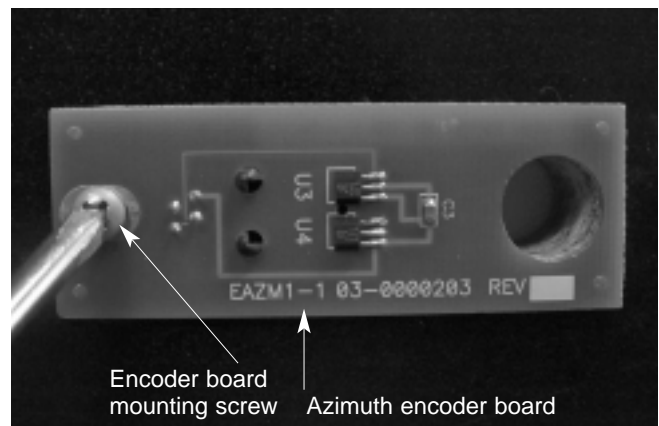

Figure 3. Installing the azimuth encoder board. Line up the large hole in the encoder board with the central hole in the top baseplate.
5. Attach the azimuth encoder board (E) to the underside of the top baseplate (D) (Figure 3). Insert the modular jack on the encoder board into the square-shaped hole in the baseplate and align the encoder board so that the small slotted hole in the board lines up with the predrilled starter hole, and the large hole lines up with the central hole in